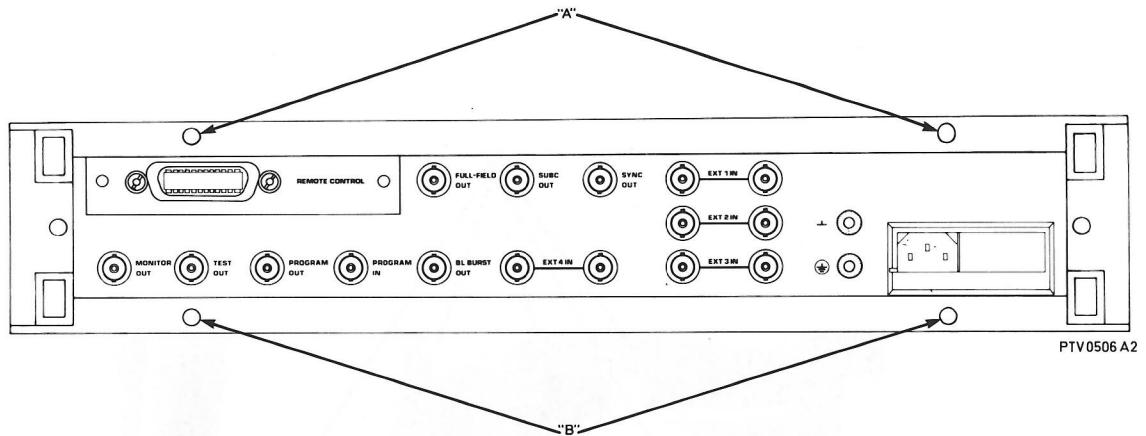

Fig. 9-1 Instrument rear panel
2. Remove top-cover of the instrument by loosening the two screws A (See fig. 9-1).
If subsequent access to the solder side of unit 8 is necessary, the bottom cover may be removed by loosening the screws B (See fig. 9-1). See also fig. 11-1 (wiring diagram)